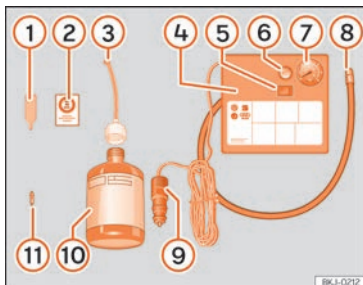

Fig. 34 Standard representation: anti-puncture kit contents.
The anti-puncture kit is located underneath the floor covering in the luggage compartment. It includes the following components » **Fig. 34:**
- Unscrew the tyre valve cap and insert. Use the » **Fig. 34** ① tool to remove the insert. Place it on a clean surface.
- Shake the tyre sealant bottle vigorously » **Fig. 34** ⑩.
- Screw the inflator tube » **Fig. 34** ③ into the sealant bottle. The bottle's seal will break automatically.
- Remove the lid from the filling tube » **Fig. 34** ③ and screw the open end of the tube into the tyre valve.
- Place the insert back into the tyre valve using the tool » **Fig. 34** ①.
- Screw the compressor tyre inflator tube » **Fig. 34** ⑧ into the tyre valve.
- Check that the air bleed screw is closed » **Fig. 34** ⑥.
- Insert the connector » **Fig. 34** ⑨ into the vehicle's 12-volt socket » **page 143**.
- Turn the air compressor on with the ON/OFF switch » **Fig. 34** ⑤.
- Attach the sticker » Fig. 34 ② to the instrument cluster, within the driver's visual field.
Screw the inflator tube » Fig. 34 ⑤ again and check the pressure on the gauge ⑥.